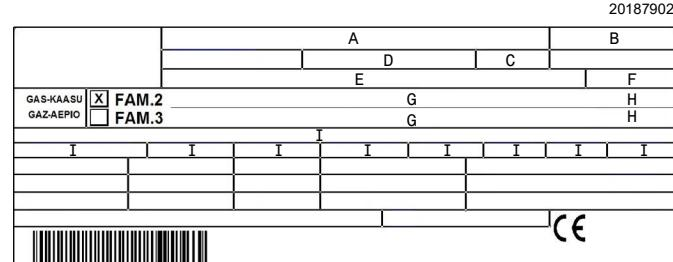

Fig. 12
- the model (A)(Fig. 12) and type of burner (B);
- the year of manufacture, in cryptographic form (C);
- the serial number (D);
- the data for electrical supply and the protection level (E);
- the absorbed electrical power (F);
- the types of gas used and the relative supply pressures (G);
- the data of the burner's minimum and maximum output possibilities (H) (see Firing rate).